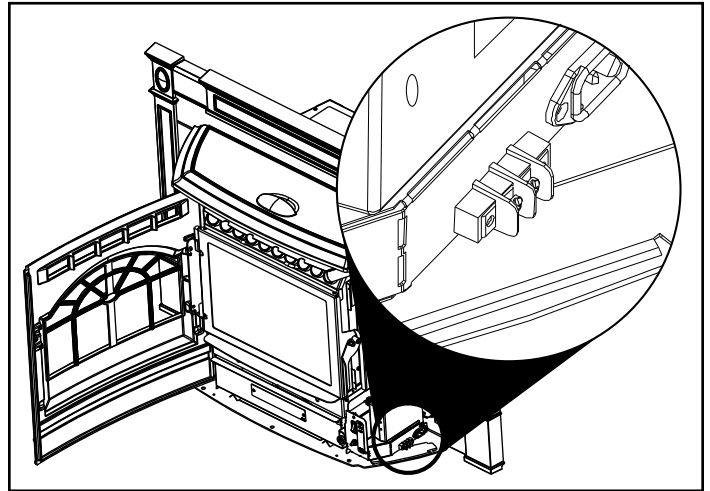

Figure 24.1
2. Connect the thermostat wire to the center two screws of the terminal block on the stove. (Figure 24.1)
There is a 4 screw terminal block located on the back lower left corner of the stove directly above the power cord inlet. The center 2 screws are for the thermostat wires (Figure 24.1).